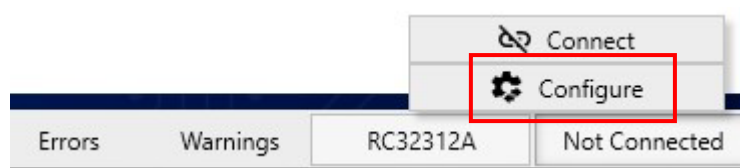

Figure 36. Configure Button
1. Click the *Not Connected* button in the corner of the screen. The Configure/Connect pop-out page appears (see .Figure 36).